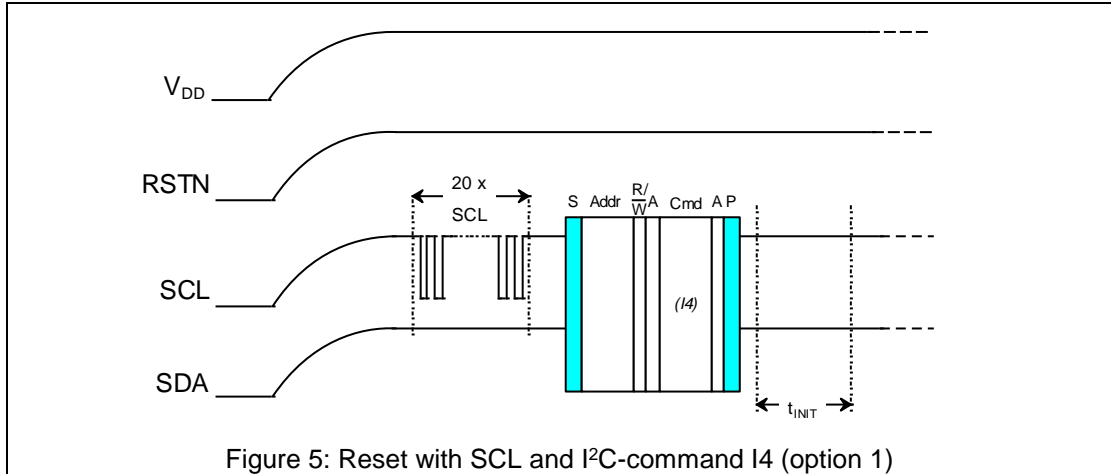

Figure 5: Reset with SCL and I2C-command I4 (option 1)
1. Clock SCL for 20 to 30 times while SDA remains HIGH (Figure 5).